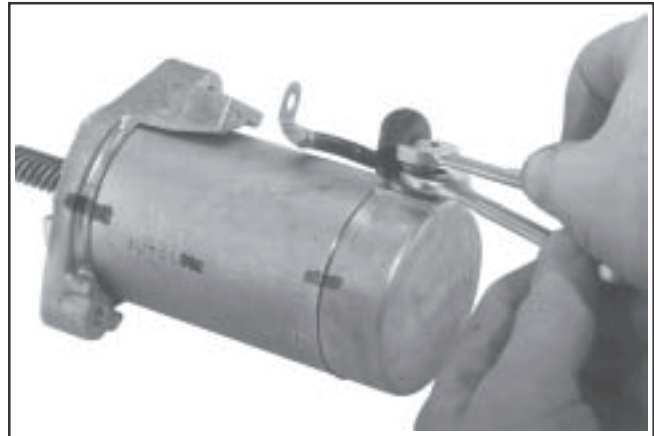

Figure 8-55. Assembling Starter Lead.
7. Attach the starter lead from the solenoid to the stud and add the lock washer and outer hex jam nut to secure. Hold the lower jam nut from turning with a wrench while tightening the top nut, to prevent damaging the internal components. See Figure 8-55.